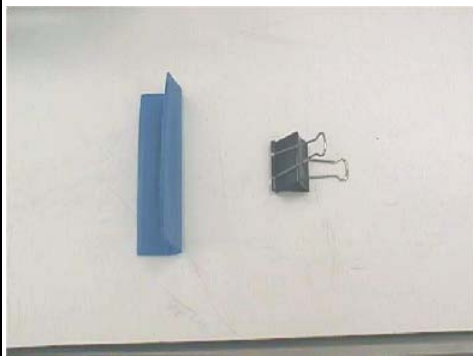

*Figure 15.
12. Remove the sturdy tie, the two cap screws, and the bracket (see Figure 15).